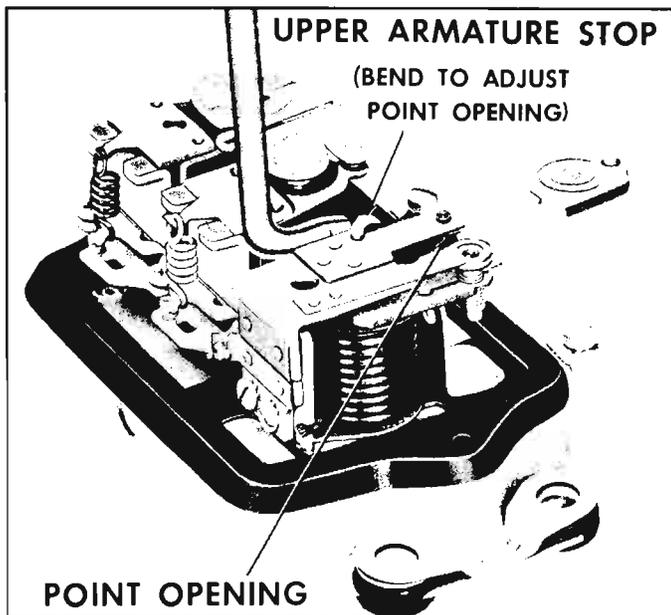

Fig. 8-33—Adjusting Cutout Relay Point Opening
3. Check point opening and adjust to .020" by bending upper armature stop (fig. 8-33).